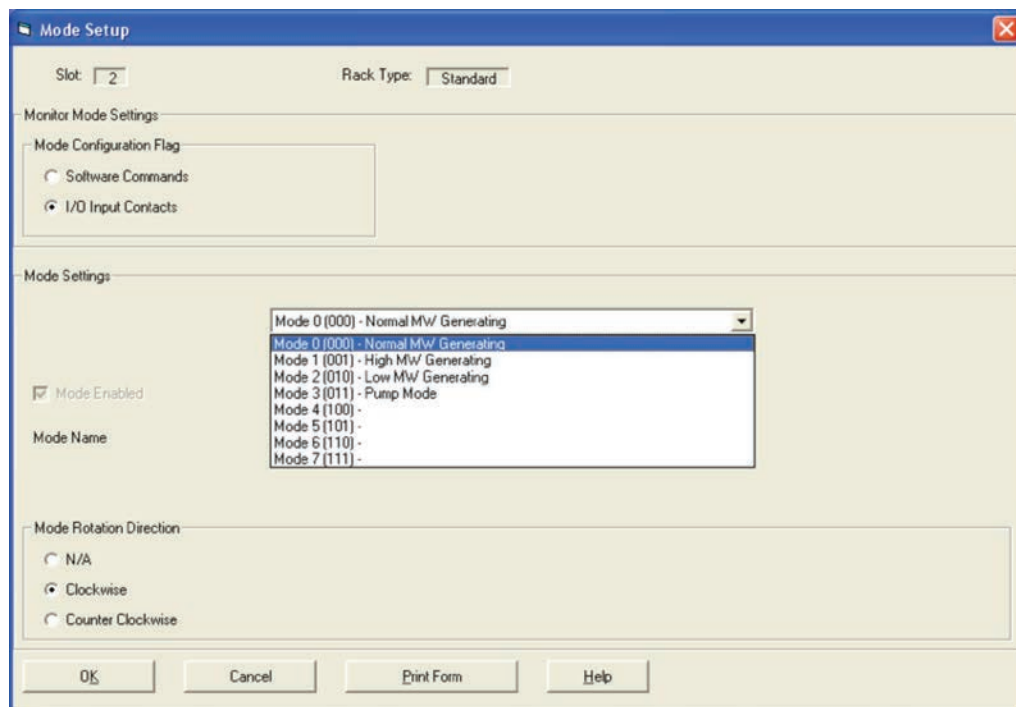

FIGURE 2: Mode Setup dialog in 3500 Configuration Software. Mode drop-down list shows that four modes have been defined in this example.
FIGURE 2: Typical true vertical and horizontal sensor locations for seismic transducers on a bearing are indicated with blue arrows (axial location identified by a blue “X”).
When a routine data collection route requires that only a single measurement be made on a particular bearing, it is very often taken with the transducer temporarily attached to the top of the bearing housing, which is a convenient location for many horizontal machines. However, when a more complete set of samples is needed, most recognized guidelines recommend measuring as close as possible to the vertical, horizontal, and axial directions (Figure 2) for consistency, and because these directions so often represent the broadest range of variation in system stiffness.
different levels of “normal” vibration, and any hydro turbine usually has at least one zone of high vibration associated with certain unavoidable head, speed, and load conditions. To accommodate these situations, the 3500/46M has a “Multimode” feature that allows you to establish up to eight (8) distinct machine modes, each with its own unique set of alarm parameters. The user-defined modes are enabled and named in the 3500 configuration software (Figure 2). Typical modes would accommodate operating conditions such as forward rotation, reverse rotation, loaded, unloaded, high head, low head, etc.
extends out through a modified valve cover that seals around the newly added port (Figure 2).
appropriate isolation valve, sensor, and bracing to provide mechanical protection and avoid fatigue failure of the valve and sensor arrangement as shown in Figure 2.
FIGURE 2: Cross section of IPV, valve housing, isolation valve, bracing (yellow shading) and pressure sensor. In this cutaway drawing of a suction valve, a double-isolation valve is shown installed in the IPV port. Green shading indicates the process gas coming into the suction valve (valve disc and seat components are at the bottom of the drawing).